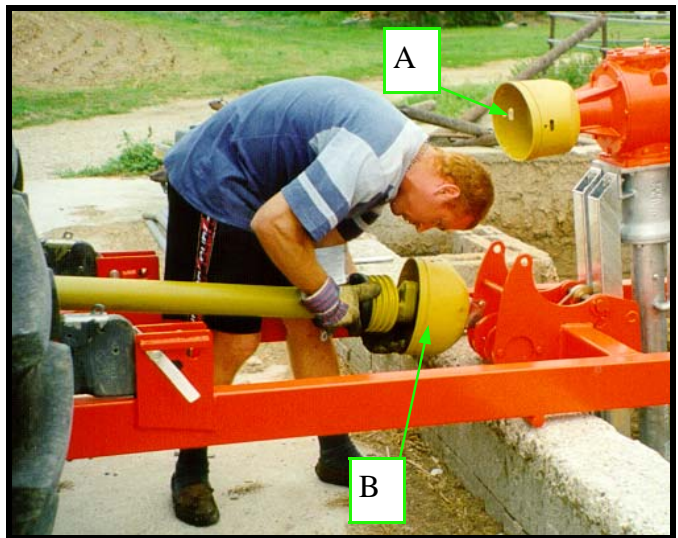

fig. 12
- disconnect the Cardan shaft on the pumping-unit’s side A fig. 12 and insert it in place of the winch lever B fig. 12. (NO FOR VERSION WITH HYDRAULIC WINCH)